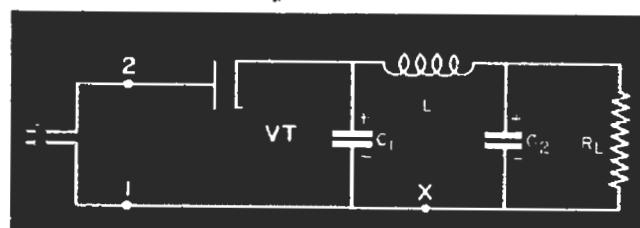

FIG 1. This universal power supply uses no power transformer.
A simple universal power supply is shown in Fig. 1. As you see, no power transformer is used—the power line connects directly to the circuit. The half-wave rectifier tube VT is followed by a standard condenser input filter which connects to the load.
► As in the standard power supply, the choke coil in Fig. 1 can be placed at point X (between the negative leads of the filter condensers), and the voltage drop across it can then be used to furnish bias voltages.
ply, in order for the speaker to operate. If the coil has a low resistance (500 ohms or less), we can use it in place of the filter choke in Fig. 1 and thus make the coil do double duty.
Regulation. The filter systems of Figs. 1, 2, 3 and 4 are condenser-input filters. As you know, their regulation